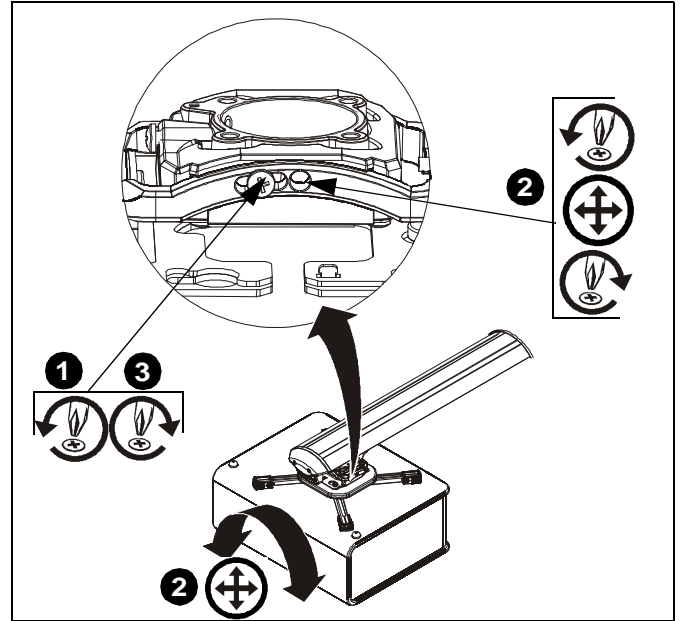

Figure 20
1. Loosen ROLL adjustment locking screw using a #2 Phillips screwdriver. (See Figure 20)
2. Turn ROLL micro-adjustment screw right or left using a #2 Phillips screwdriver until image is properly aligned on target. (See Figure 20)
3. Tighten ROLL adjustment locking screw using a #2 Phillips screwdriver. (See Figure 20)